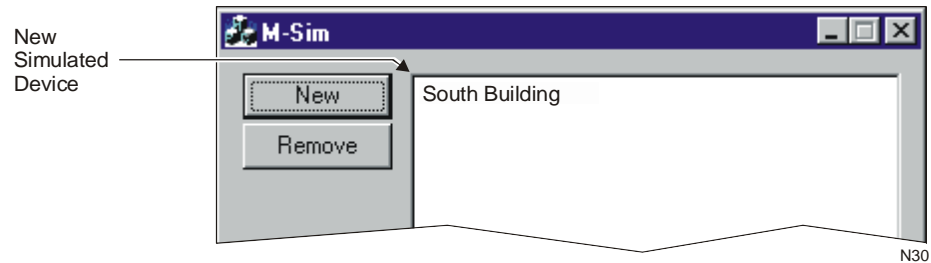

Figure 12-3: New Simulated Device in the Simulator Window
3. Click OK. The new simulated device appears in the Simulator window (Figure 12-3).